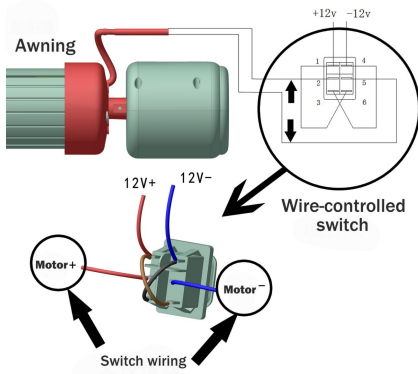

Figure D22
4.2 After confirming that the wiring is correct, power on and press the line control switch to test the opening and closing of the sunshade. If the direction of the button does not match the direction of the opening and closing action, please switch the positive and negative poles of the wiring to adjust the direction of motor rotation (Figure D22).